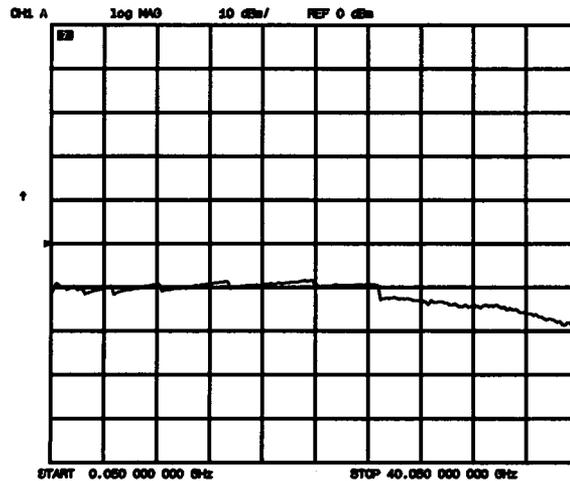

Figure 11-2. Directional Coupler Check CRT Trace
To quickly check the directional coupler by elimination, set output power to  $-15$  dBm by pressing **MENU** **POWER** **RANGE 2 -25 to -15**. Connect the RF flexible cable from the tool kit from the output of the M/D/S directly to the J2 RF INPUT of the suspect signal path sampler. Press **SYSTEM** **SERVICE MENU** **INPUT PORTS** **A** or **B** and compare the trace to Figure 11-2.
- Trace similar to Figure 11-2: the sampler is good, therefore the coupler is lossy. Replace the coupler. Minor power variations are probably due to the flexible cable and are of no concern.